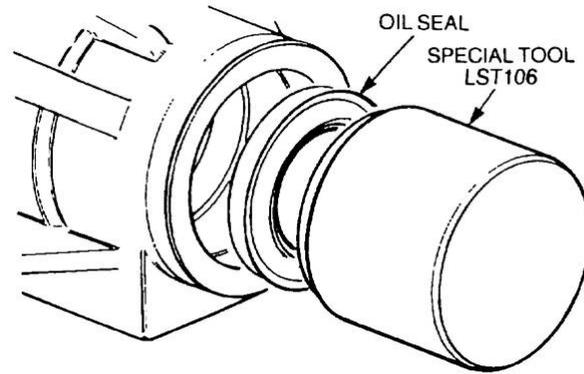

Figure 264 Installation of the Pinion Oil Seal
- u. Remove the coupling flange and nut and smear a suitable sealing compound on the outer periphery of the new pinion oil seal. Using special tool LST106, install the oil seal with the open face towards the bearing (Figure 264).